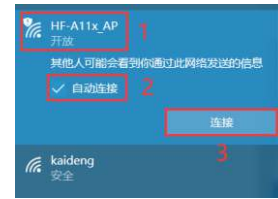

Figure8
A) Click on the computer to connect to the WiFi network of HF-A11x_AP as shown in Figure 8, open the browser in the computer, enter the IP address: 10.10.100.254, enter in the name: admin, enter in the password field: admin.